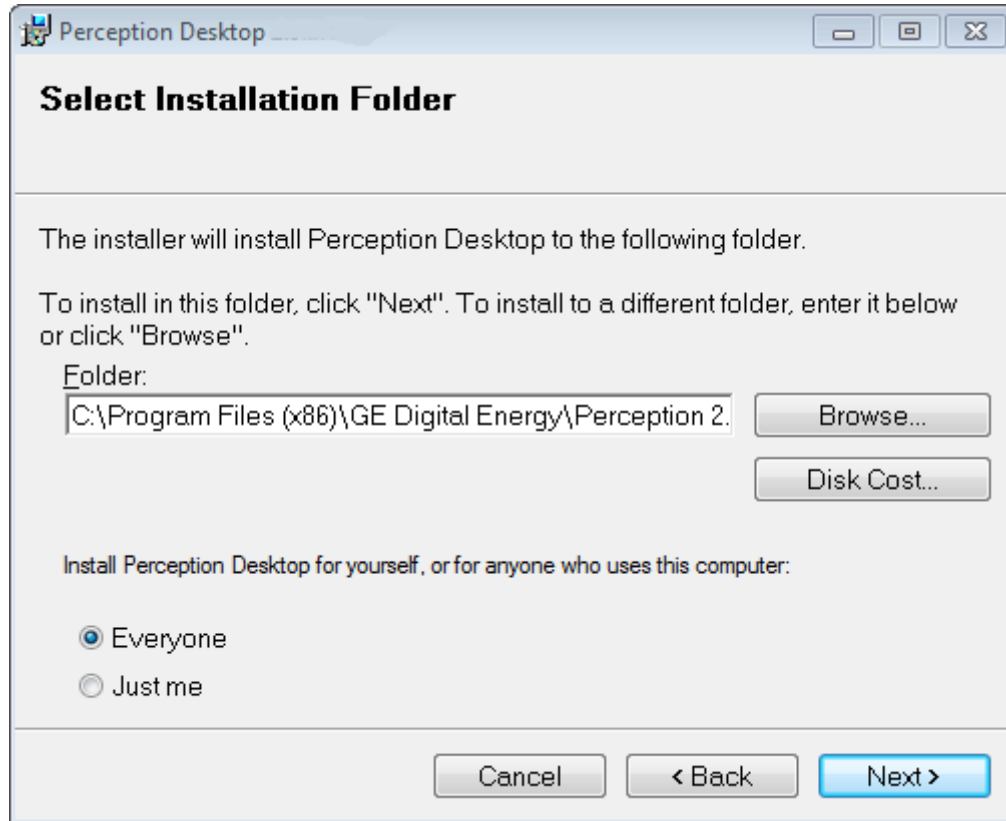

Figure 2-3: Select Installation Folder
2.2.3 Browse to select the installation folder or accept the default folder and click **Next** to continue as shown in Figure 2-3.